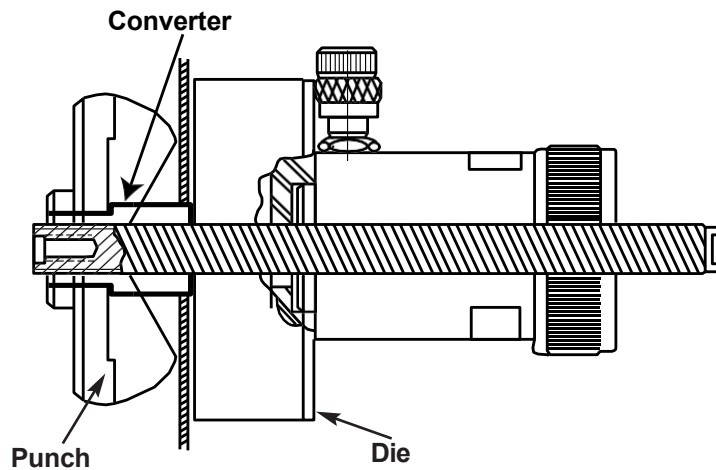

Figure 7
3. Remove the 1½" punch and die. Install the 3½", 4", 5", or 6" die over the pull rod. (See Figure 7)
4. Install the KC3540 converter on the inside of the punch. (Figure 7)